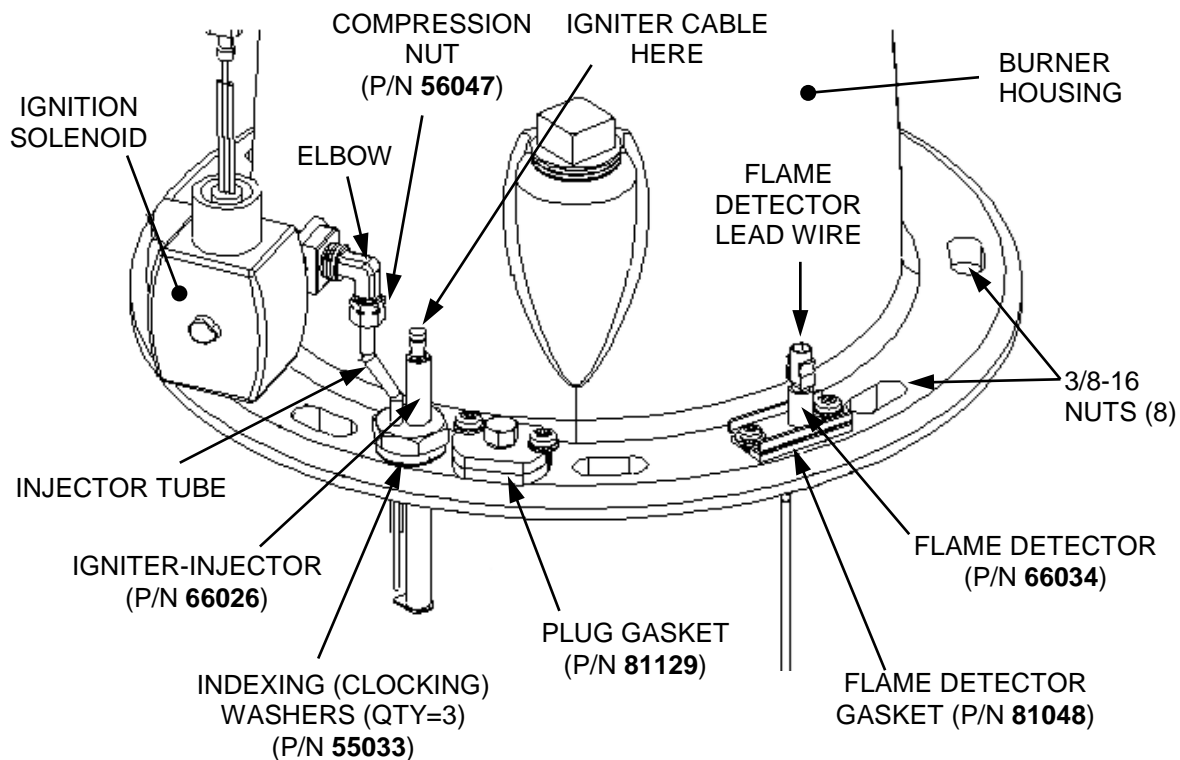

Figure 6: Partial View Showing Flame Detector, Igniter-Injector, and Staged Ignition Assembly on Burner Housing Flange
2. Disconnect the lead wire from the Flame Detector, shown in Figure 6. Unscrew the two screws and remove the Flame Detector and gasket.
3. Disconnect the igniter cable from the Igniter-Injector (Figure 6).
4. Refer to the partial view in Figure 6. Using a 7/16" open-end wrench, disconnect the compression nut securing the Gas Injector Tube of the Igniter-Injector to the elbow of the Staged Ignition Assembly. Remove the compression nut from the elbow and discard, as it will be replaced with a new one from the kit at reassembly. Disconnect the Staged Ignition assembly from the Igniter-Injector.
6. Remove the two (2) screws securing the Flame Detector to the burner housing and retain. Remove the Flame Detector and gasket and discard. Both will be replaced at reassembly with new ones from the kit.
2. Connect lead wire to the Flame Detector (Figure 6).
3. Attach igniter cable to the Igniter-Injector assembly (Figure 6).